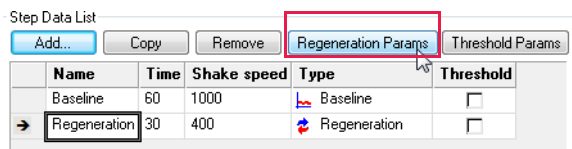

Figure 10-43: Regeneration Params Button
- Click **Regeneration Params** (Figure 10-43).